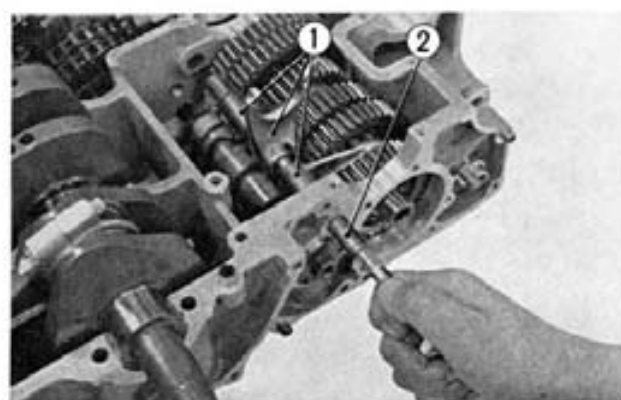

Fig. 5-5 ① Gear shift forks
② Bearing puller
5. Pull off the gear shift fork shaft and remove the shift forks. (Fig. 5-5)